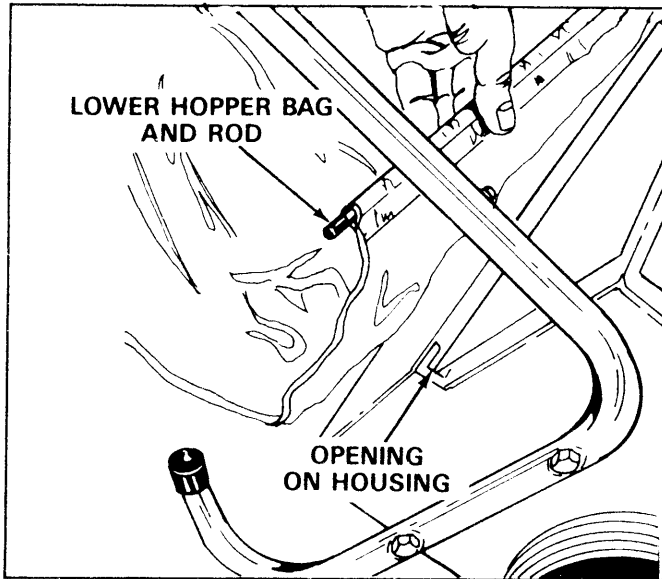

FIGURE 9
10. Place the lower hopper bag and bag rod into the opening on the sweeper housing. See figure 9.